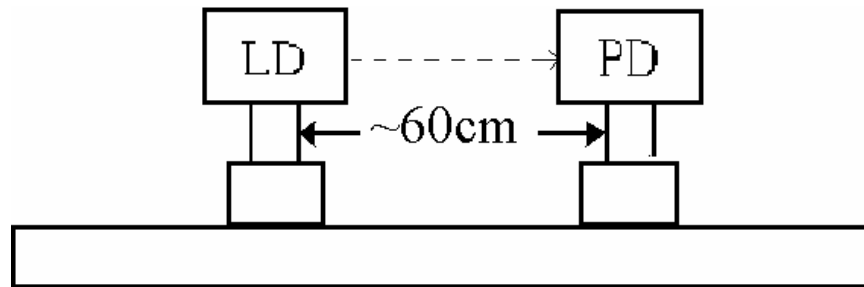
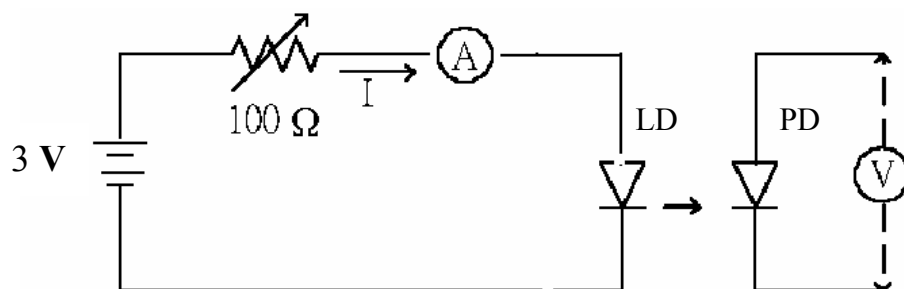

Fig. 5 Optical setup (LD : laser diode; PD : photodetector)
Fig. 6 Equivalent circuit for the connection of the laser diode
1. Mount the laser diode and photodetector in a horizontal line on the optical bench, as shown in Fig. 5. Connect the variable resistor, battery set, ampere meter, voltage meter, laser diode and photodetector according to Fig. 6. Adjust the variable resistor so that the current passing through LD is around 25 mA and the laser diode emits laser light properly. Choose the low gain for the photodetector. Align the laser diode and the photodetector to make the laser light level at the small hole on the detector box and the reading of the photodetector reaches a maximum value.